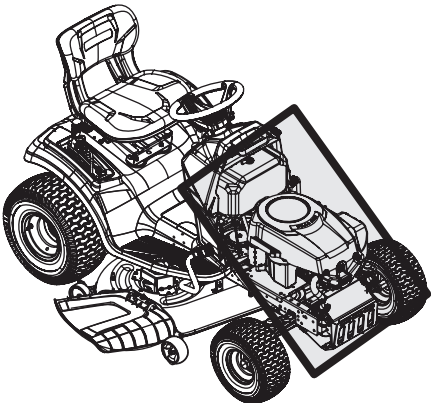

Figure 30
- Clean under the hood, including exhaust manifold, around fuses, all wiring and harnesses, muffler pipe, muffler shield, engine intake screens and cooling fins, etc (Figure 30).